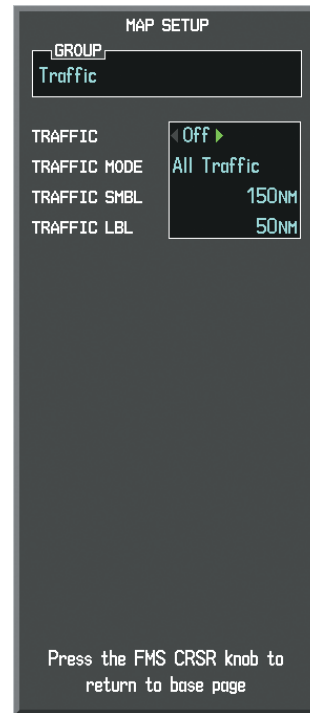

Figure 6-181 Navigation Map Page Setup Menu, Traffic Group
- 5) Turn the large **FMS** Knob or press the **ENT** Key to scroll through the selections (Figure 6-181).